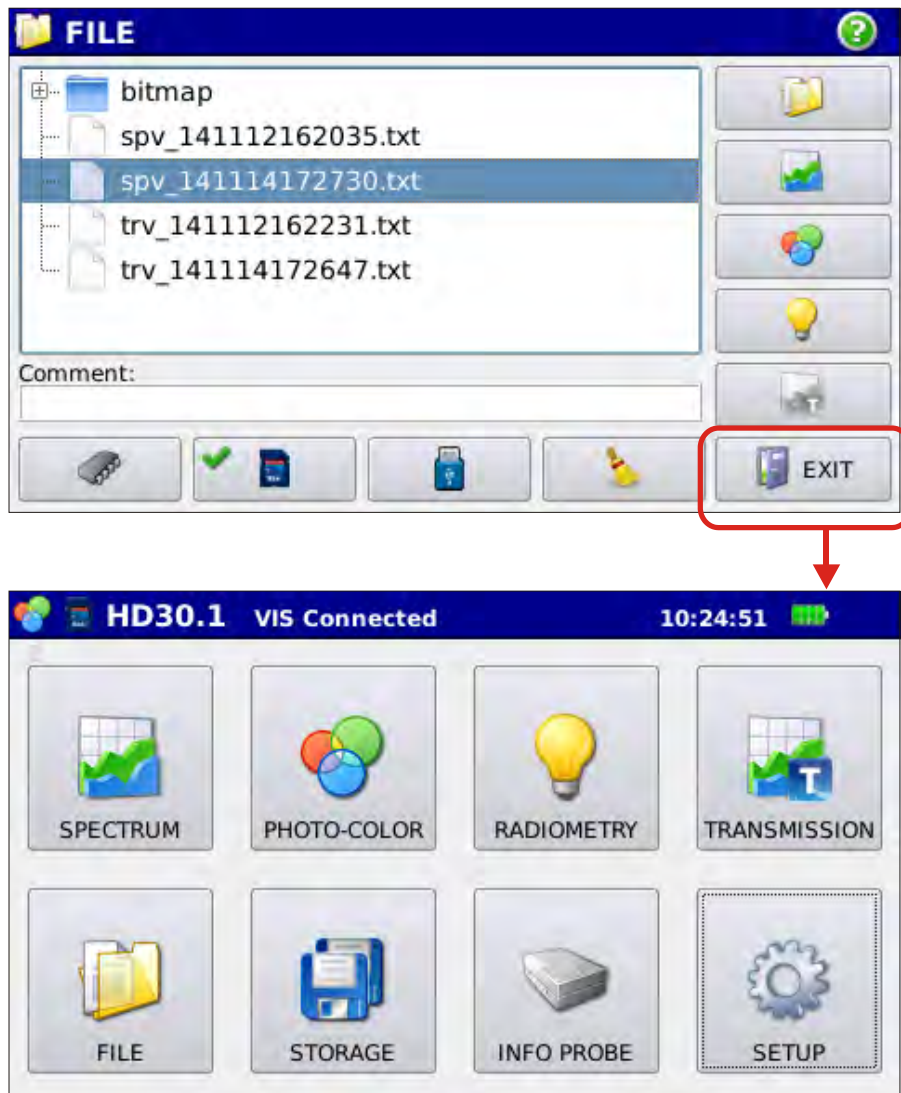

Fig. 4.18: Returning to the main menu from stored measurements management menu
4.7 Press in the file handling window to return to the start-up screen (fig. 4.18)